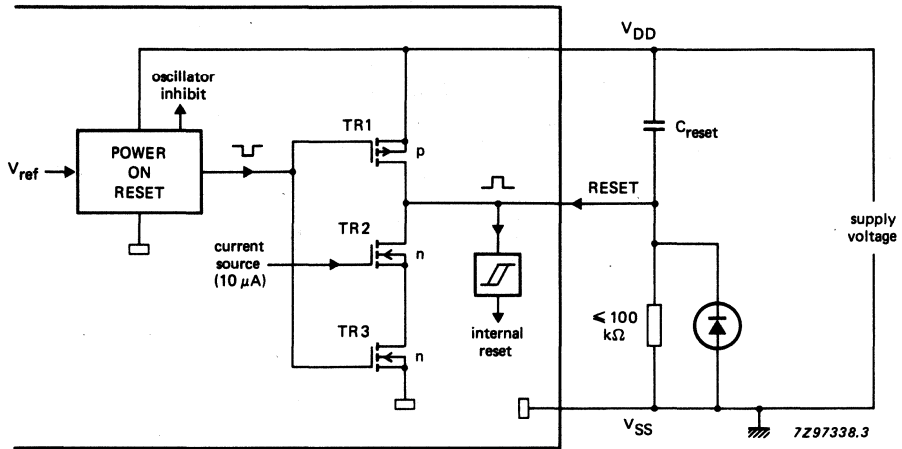

Fig. 24 Stretched power-on-reset with external components.
2. If V_{DD} has a slow rise time then the RESET signal should be stretched by an external RC circuit (see Figs 24 and 25). In the event of a short drop in the supply voltage, the diode path rapidly discharges the capacitor to ensure a reliable power-on-reset. To ensure a correct reset, the RESET signal should reach at least 70% of the final value of V_{DD} . Given that the RESET voltage and V_{DD} rise exponentially, the above requirement is satisfied when the time constant τ of the RESET pulse is > 8 times the time constant of V_{DD} . If V_{DD} rises linearly, then a RESET time constant > 2 times the rise time of V_{DD} is required.